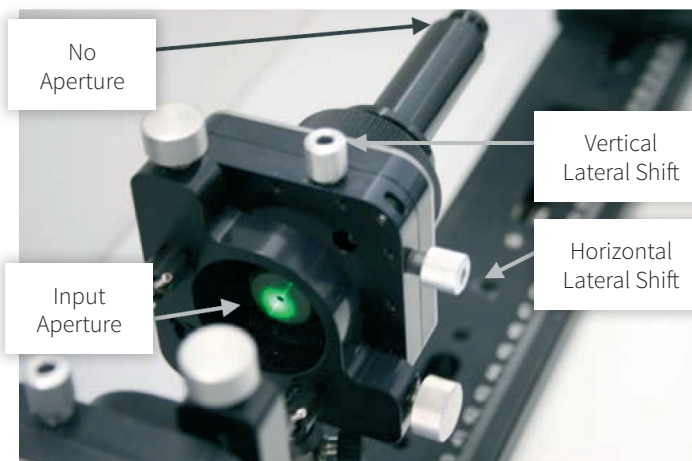

Figure 2. Mount alignment.
- No aperture at the exit (fig. 2).